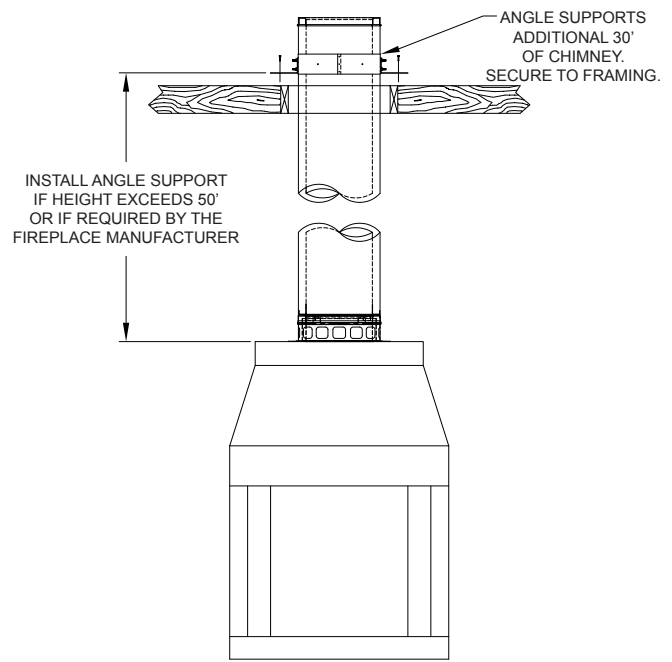
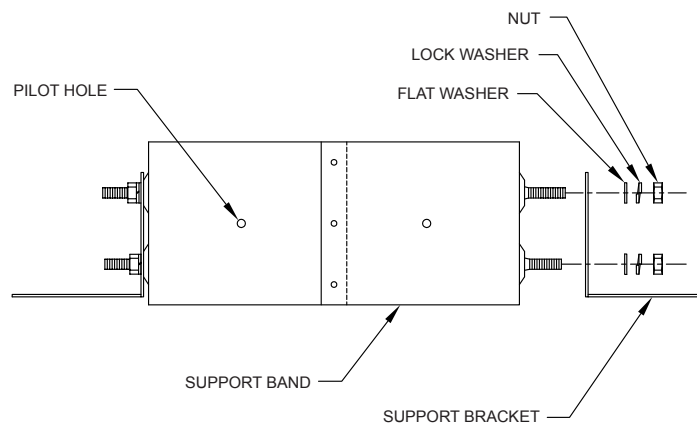
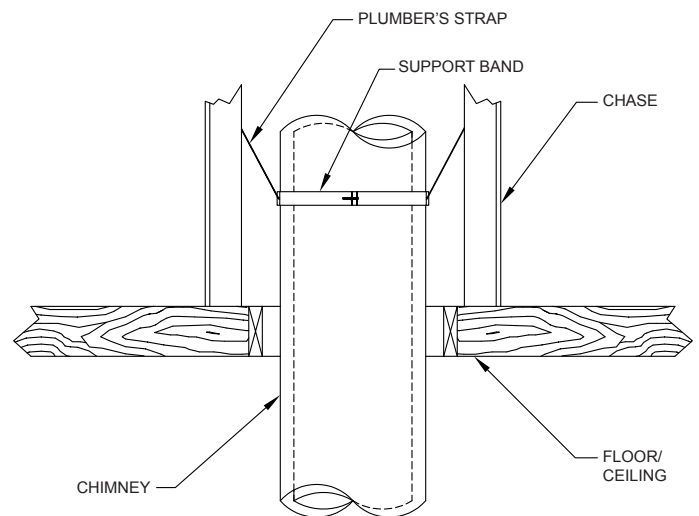

FIG. 5
FIG. 6
FIG. 7
Angle Support and Support Band: Install an Angle Support if total chimney height is greater than 50 feet, or if the fireplace manufacturer requires it. If additional support is needed, install one or more Angle Supports which will support 30 feet of chimney FIG. 5. Slide the Angle Support around the chimney and align over framed opening. Secure to casing with (4) sheet metal screws and assemble brackets per FIG. 6. Nail the brackets to the framing using a minimum of (2) nails or screws per bracket. A Support Band may be required by some fireplace manufacturers to keep the chimney vertical and help maintain clearances to combustibles within a chase. Clamp the Support Band to the pipe using the nut and bolt provided and secure legs to nearby framing using plumbers strap or guy wires. See FIG 7. The Support Band does not support the weight of the chimney, it is only used to keep the chimney centered within a chase.